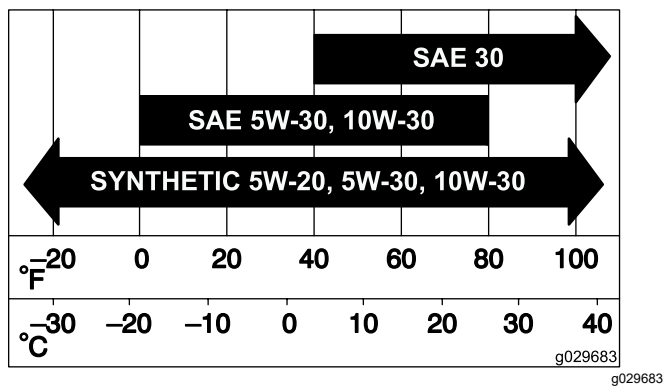

Figure 44
3. Release the latches on the air cleaner and pull the air-cleaner cover off the air-cleaner body (Figure 44).
5. Gently slide the filter out of the air-cleaner body (Figure 44).
2. Carefully slide the filter into the air-cleaner body (Figure 44).
3. Install the air-cleaner cover and secure the latches (Figure 44).